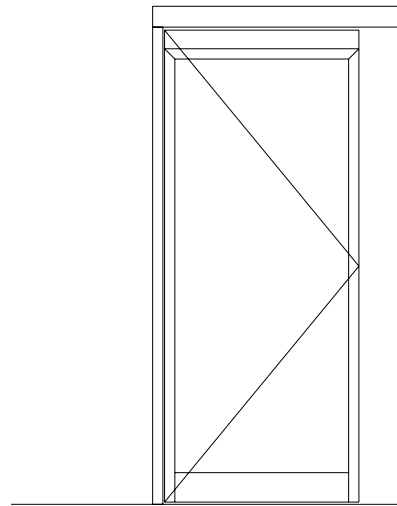

Fig. 6
6. Installing the single action door panel (Fig. 6)